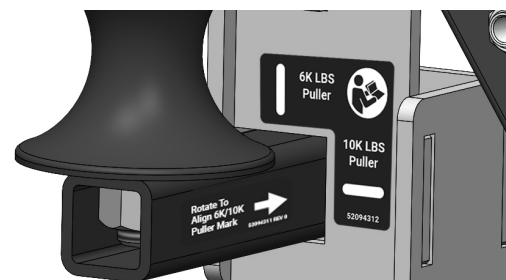

Figure 1
8. Insert the Pull Assist mounting bar into the Pull Assist mounting bracket. Line up the arrow on the mounting bar with the 6K or 10K mark depending on the puller in use. (Fig. 1)